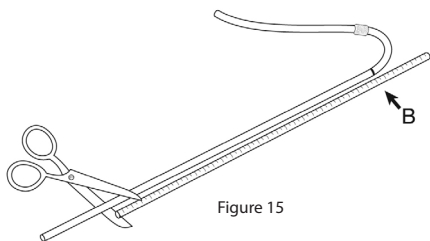

Figure 15
8. Place the Measuring Rod alongside the Upper Catheter with the B recorded length on the Measuring Rod at the level of the Catheter marker ring. Cut the Upper Catheter at the level of the tip of the Measuring Rod (Figure 15). Make a single, straight, perpendicular cut of the tubing with suture scissors.